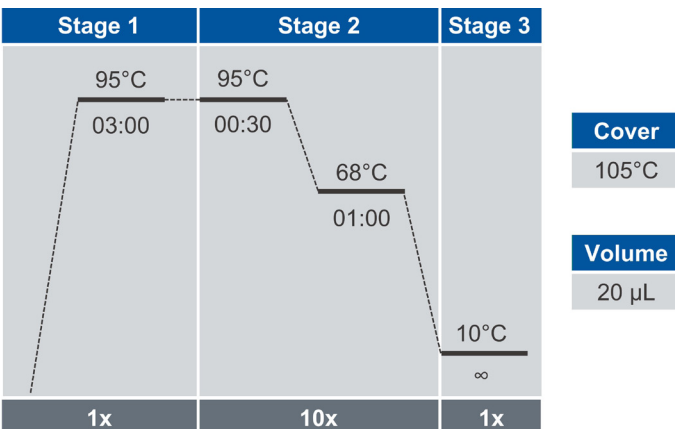

Figure 34. Olink Index PCR2 program
11. Click Open and select the program *Olink Index PCR2* (Figure 34). Click **Start**.